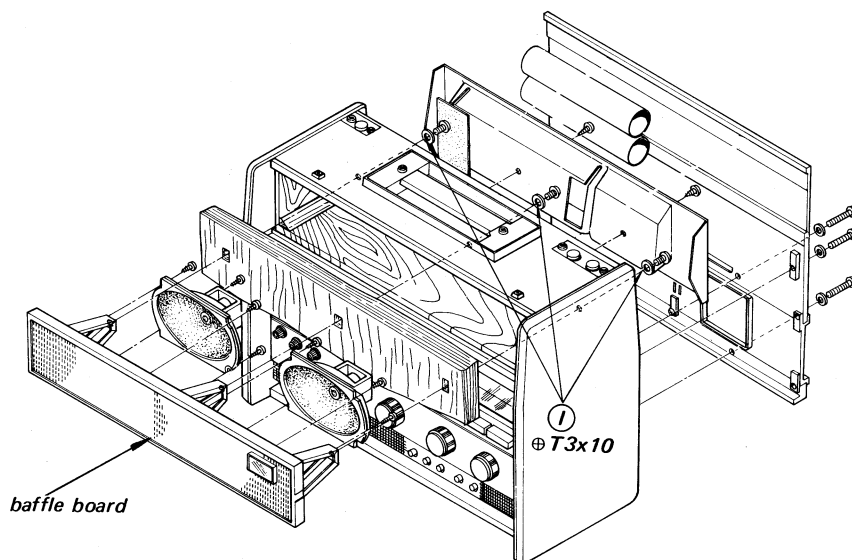

Fig. 2-3.
2. Remove the three truss head screws marked (I) in Fig. 2-3.
3. Now, baffle board and two speakers are removable as shown in Fig. 2-3.